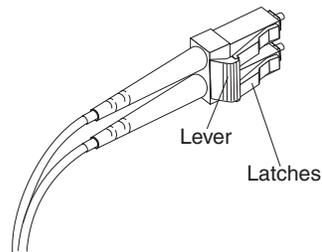
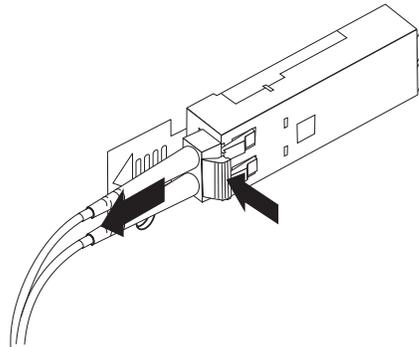

Figure 10. LC-LC Fibre Channel Cable lever and latches
Figure 11. Removing the LC-LC Fibre Channel cable
1. On the end of the LC-LC cable that connects into the SFP module or host bus adapter, press down and hold the lever to release the latches, as shown in Figure 10. Carefully pull on the connector to remove the cable from the SFP module, (ensure that the levers are in the released position when removing the cable) as shown in Figure 11. When removing the cable, make sure you do not grasp the SFP module plastic tab.